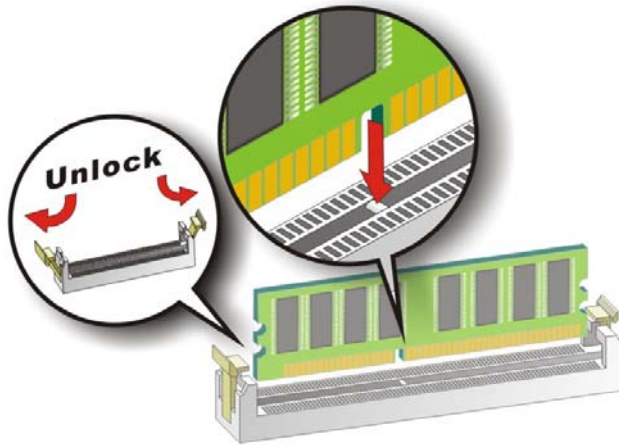

Figure 5-7: Installing a DIMM
To install a DIMM into a DIMM socket, please follow the steps below and refer to **Figure 5-7**.
secure the DIMM into the socket. Before the DIMM can be inserted into the socket, the handles must be opened. See **Figure 5-7**.
Step 2: Align the DIMM with the socket. The DIMM must be oriented in such a way that the notch in the middle of the DIMM must be aligned with the plastic bridge in the socket. See **Figure 5-7**.
Step 3: Insert the DIMM. Once properly aligned, the DIMM can be inserted into the socket. As the DIMM is inserted, the white handles on the side of the socket will close automatically and secure the DIMM to the socket. See **Figure 5-7**.